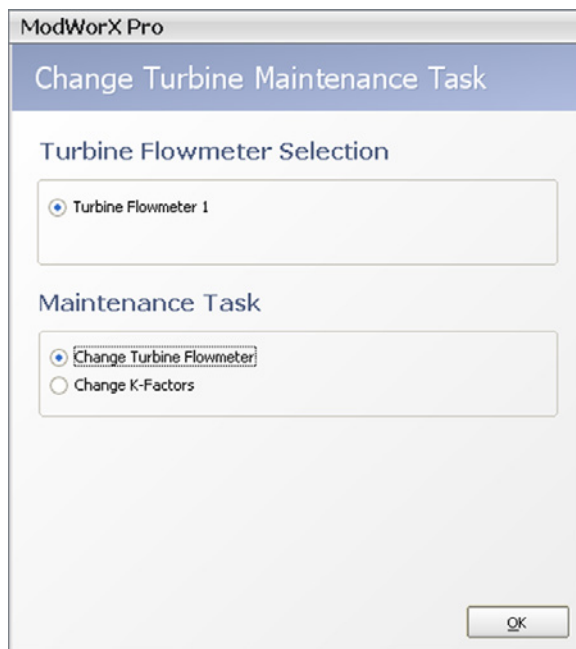

Figure 13.2
2. Click **Yes** at the Enter Maintenance Mode prompt to proceed. The Change Turbine Maintenance Task screen will appear (Figure 13.2, page 176).